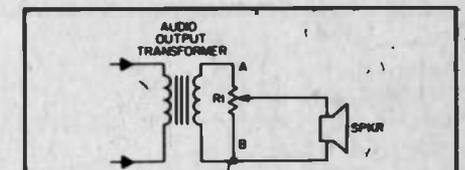

Fig. 1. Fader-type volume control for loudspeaker uses only one pot—but it's not practical in most cases.
As a typical example of construction let us take a standard size D flashlight cell and saw it in half from top to bottom. The inside will look like Fig. 1.
**Attenuators.** When an attenuator is added to the circuit, naturally it is going to cause a change in circuit impedance, amount of power transfer, and general operating characteristics. A simple attenuator such as potentiometer R1 in Fig. 1 can be used as a local volume control. It will vary the volume level of the speaker, but at the cost of causing an impedance *mismatch*. If the secondary winding of the transformer has an impedance of 8 ohms and the total resistance across R1 is 8 ohms, then the transformer side of the circuit is perfectly matched with the wiper of R1